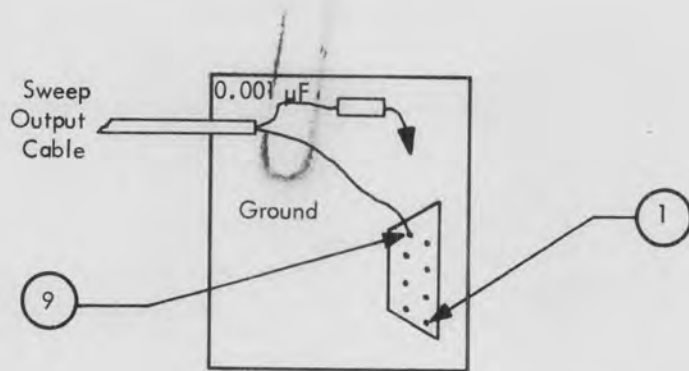

Figure 5-11. Crystal Socket
- (1) Remove the jumper from terminal C2 and connect it to C1. Set the sweep output to -15 dBm.
- (2) Set the sweep frequency for a bandedge-to-bandedge sweep of 46.5 MHz to 50 MHz. Connect the center conductor of the sweep output cable to pin 1 of the crystal socket (see figure 5-11) and the shield to pin 9 or ground.